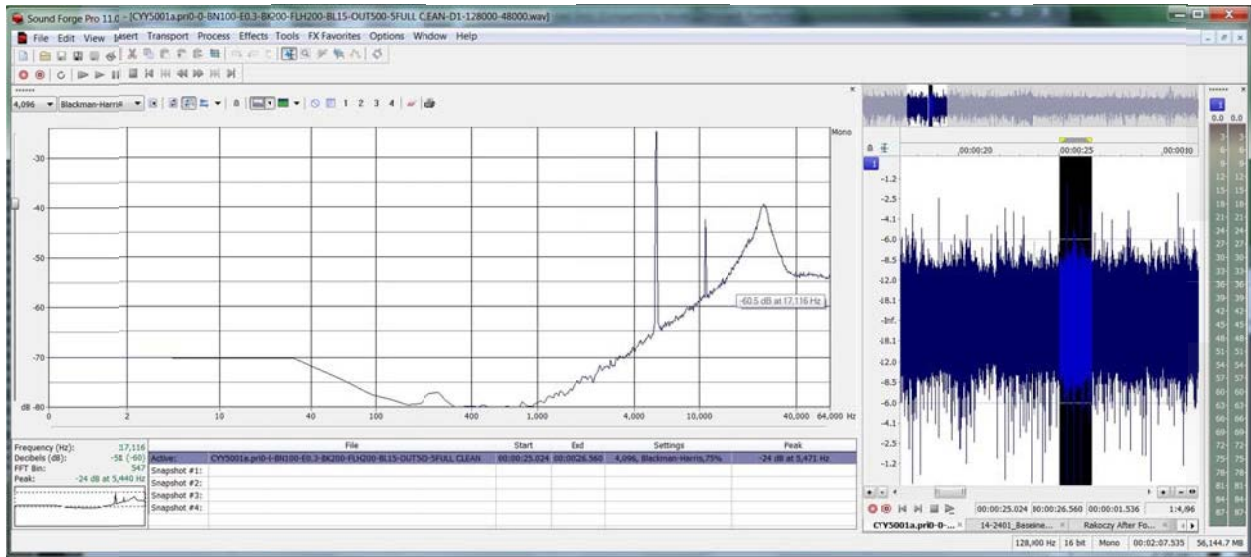

Figure 2: Frequency spectrum of data from IRENE on CYC5001a showing tone, overtone, and broad peak at 24.9 KHz due to tool vibration (?).
- We see a tone at 5.5 KHz with a clear overtone at 11 KHz (Figure 2)